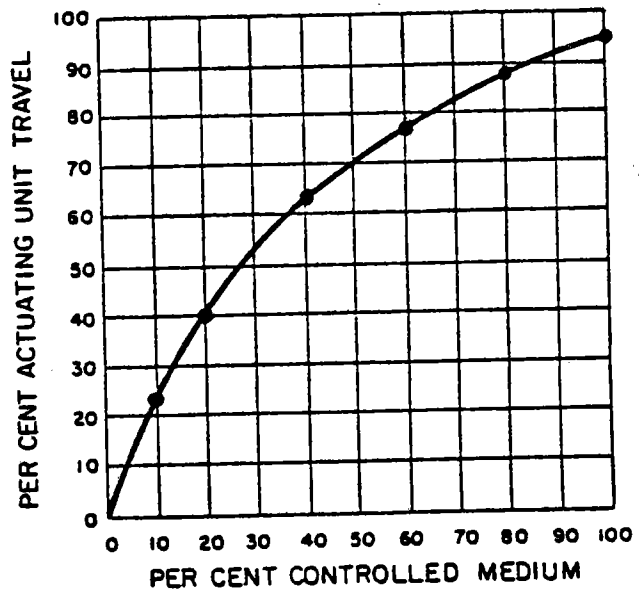

FIGURE 6 - Actuating Unit Characteristic
1. Use B, straight line cam. Determine actual controller medium vs. drive lever travel characteristic. (Figure 6 is a typical drive characteristic curve.)